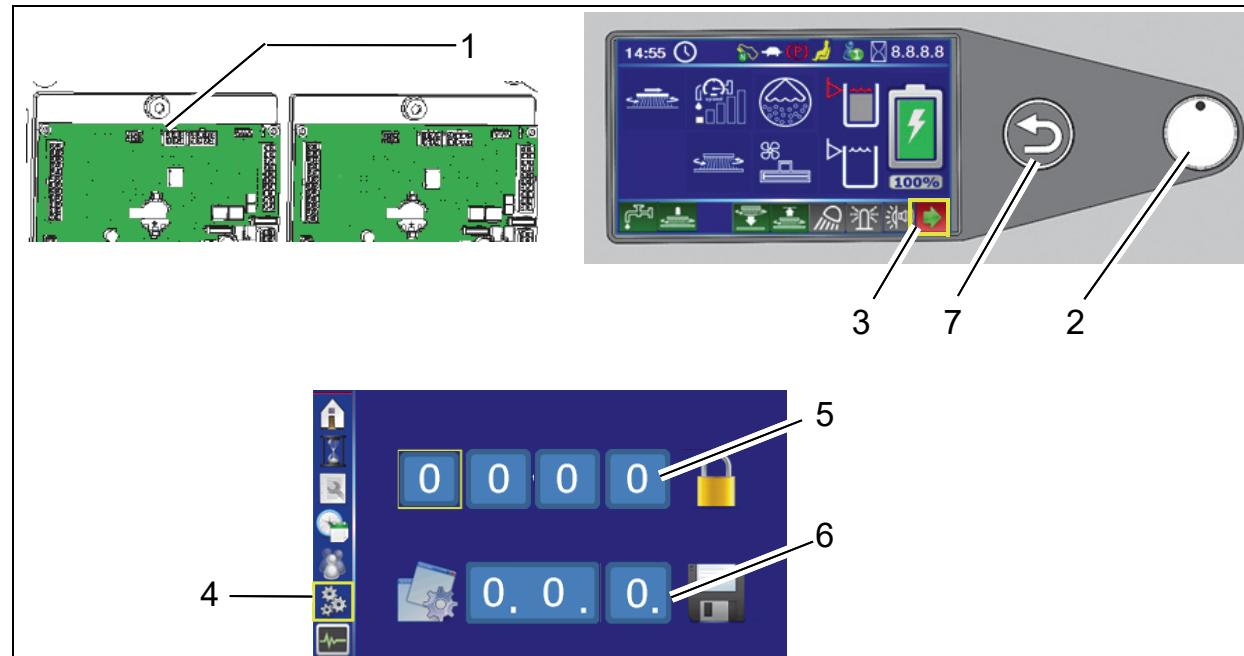

Fig. 5
of controller A1 (Fig. 5/1).
2. Select the arrow soft key (Fig. 5/3) on the control panel using the turn-push knob (Fig. 5/2) and press to access the sub-menu.
3. Select the configuration menu in the sub-menu (Fig. 5/4).
4. Enter the 4-digit code in the configuration menu at the top (Fig. 5/5):
In the configuration menu at the bottom (Fig. 5/6), set the value of the option and save by pressing the turn-push knob. After confirming the last digit, OK? appears. Press the turn-push knob again to save the value. Saved value is displayed in green.
If the value is not to be saved, exit menu using the return key (Fig. 5/7).